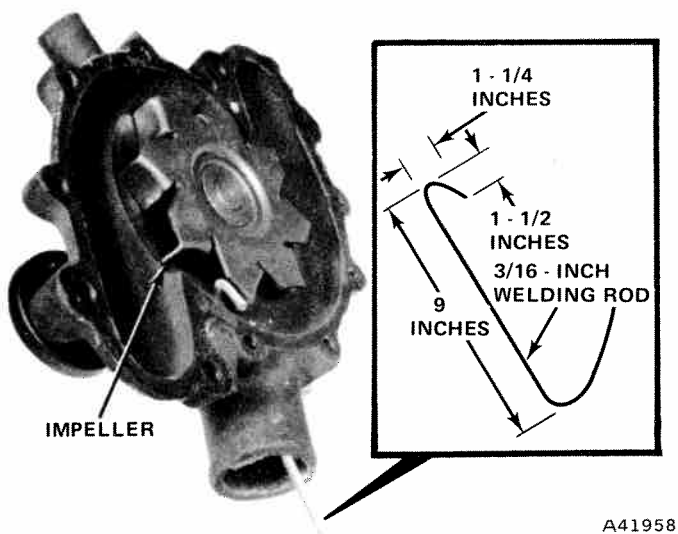

Fig. 2-12 Checking Water Pump for Loose Impeller
- (1) Position clean bucket beneath water pump.
- (2) Loosen fan belt.
- (3) Disconnect lower radiator hose from water pump.
- (4) Bend a stiff clothes hanger or welding rod as shown in figure 2-12.